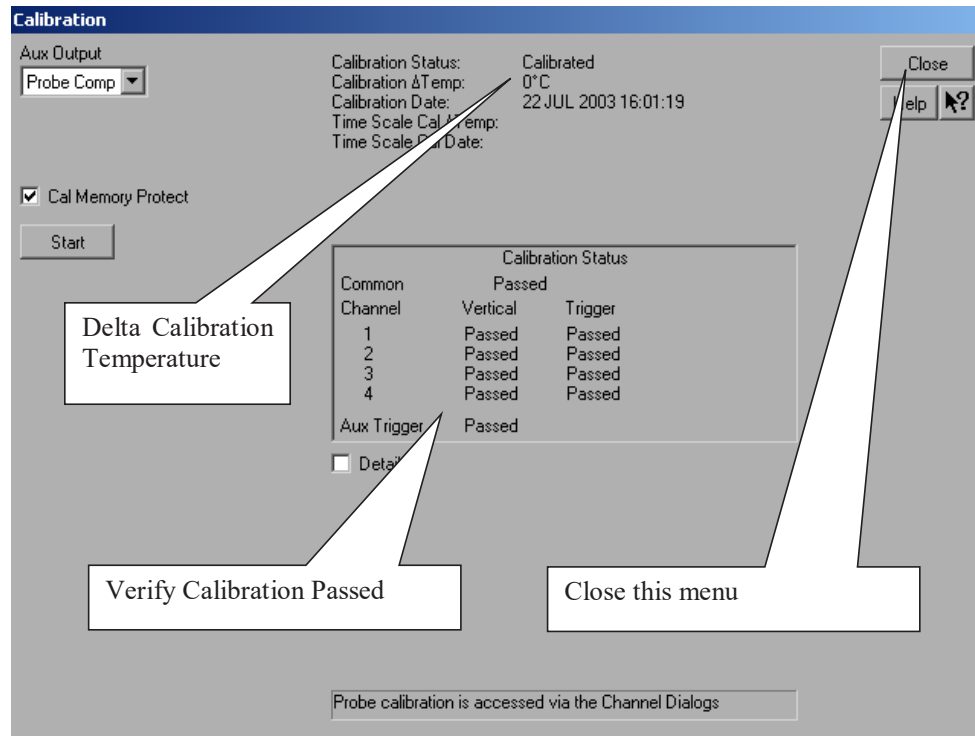

Figure 6 Calibration Status Screen.
- 6 Referring to Figure 6 below, perform the following steps: